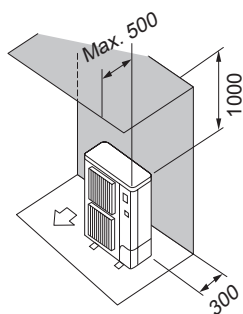

Fig. 4-7
- Obstacles at rear and above only (Fig. 4-7)